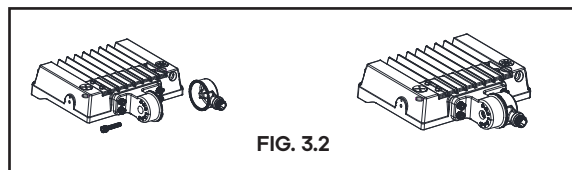

FIG. 3.2
STEP 3. Run the rubber wire through the other holder and tighten it with the hexagon socket screw. (Be careful not to scratch the wire). **FIG. 3.2**